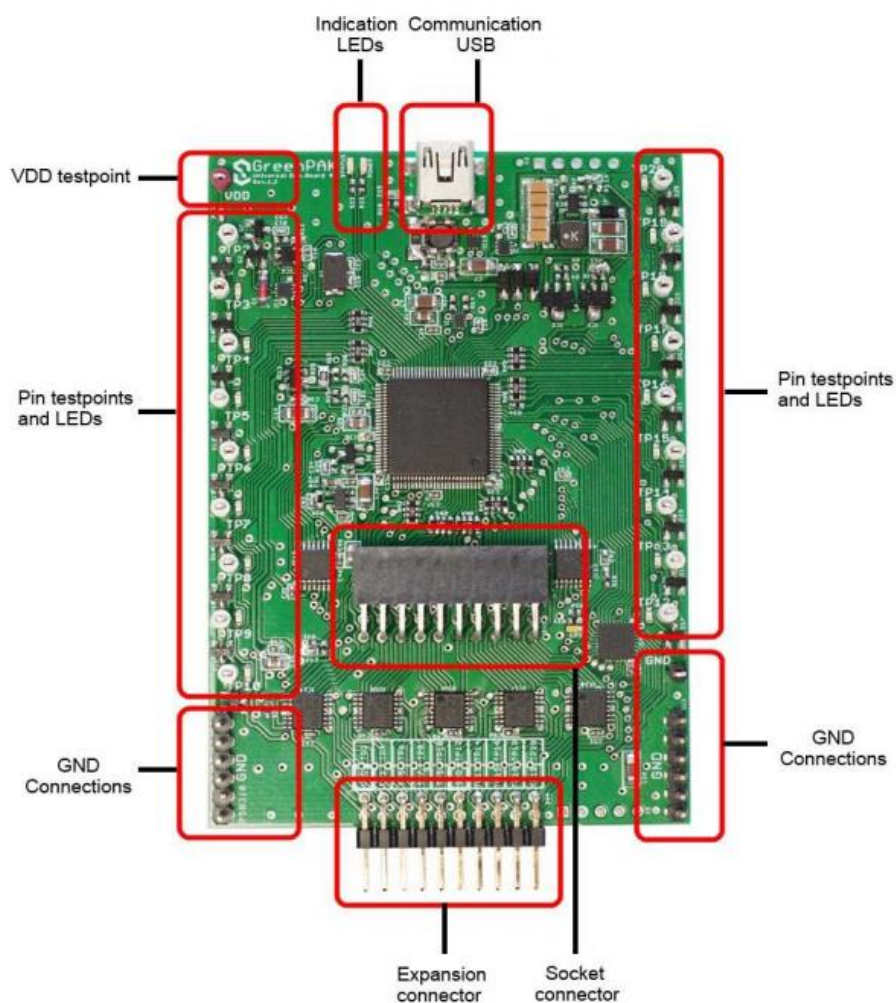

Figure 10. Build and Download the Project
| Figure 10. Build and Download the Project                  | 9  |
- b. Connect the socket adapter (including blank chip) to the “GreenPAK Universal Development Board”. (see Figure 10)